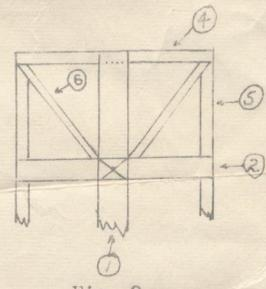

Fig. 2
2. After the bolsters in the step above are thoroughly dry, the holes for the kingpin screws should be located. See Fig.2. Mark with a pencil, a line diagonally between the corners made by the junction of the center sill and the bolsters as shown and center punch the kingpin hole where these lines cross. This will be the exact center.
7. The diagonal braces, parts #6 are not cut to fit but must be fitted at the time of assembly. Since they are soft white pine, a razor blade or Exacto knife will do nicely. After cutting as shown in Fig. 2, they should be cemented in place.